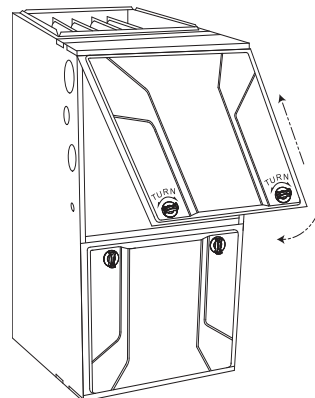

Fig. 13 – Furnace Door Replaced (Upflow Configuration)
- Replace main furnace door (see Fig. 13).
6. Replace main furnace door (see Fig. 13).